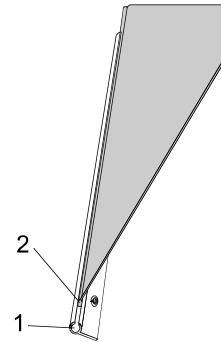

Fig. 18
1. Slide aluminum C-channel (1) over the plastic bead (2) on the rear of one roof side panel (see Fig. 18).
2. Drill one hole in each end and in the center of the C-channel (3) and fasten the C-channel to the house wall using appropriate fasteners (not supplied).